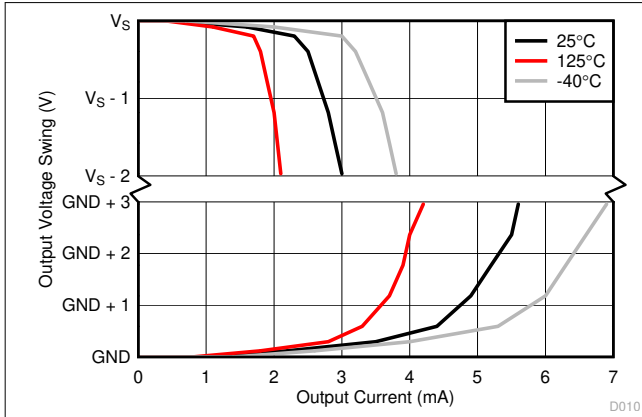

图 7-13. Output Voltage Swing vs Output Current
- (1) See the Input Signal Bandwidth section for more details.
(2) See Figure 7-13.